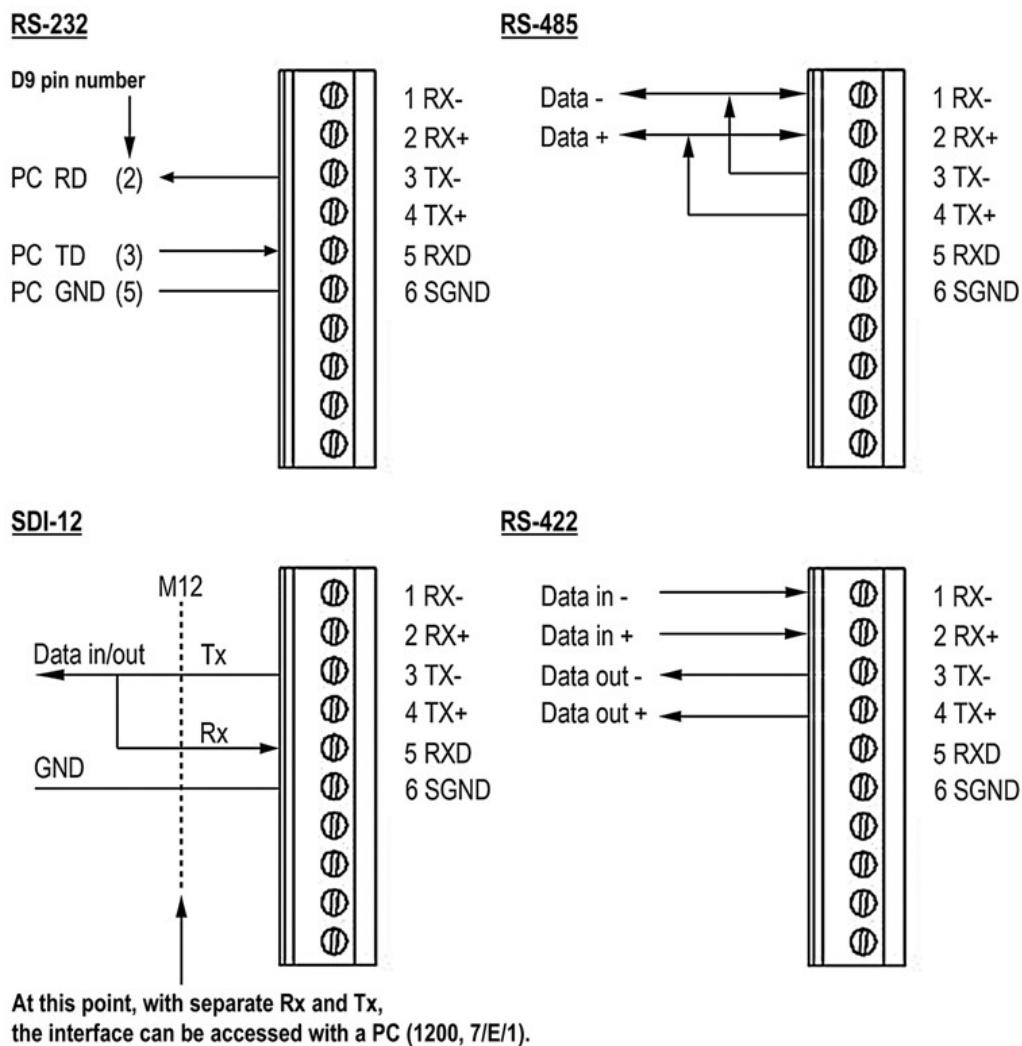

Figure 19 Data Communication Interfaces
- **SDI-12 Native mode** ($M=S$, $C=1$) has the lowest standby consumption, about **0.07 mA**. Note that it can also be used with RS-232 terminals (PC or equivalent), see the SDI-12 connection diagram in Figure 19 on page 41. In this case the commands must be in SDI-12 format, but no special line break signals are required. The SDI-12 mode is for polling only.